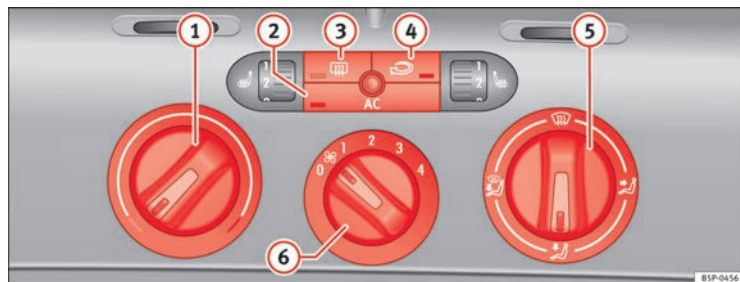

Fig. 130 On the dash panel: Climatic controls
- Turn the temperature selector ⇒ fig. 130 (1) clockwise to select the required temperature.